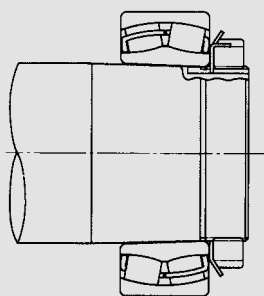
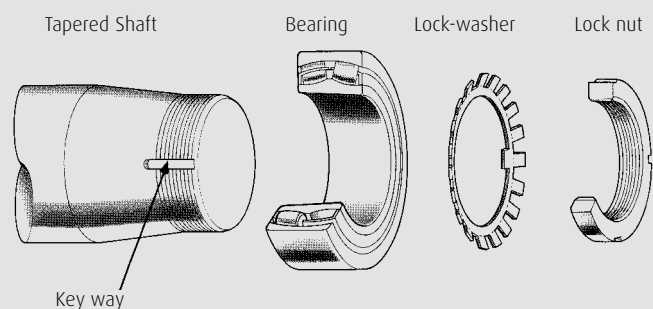

Fig. 6.21 Assembly view (without spacer ring)
Fig. 6.22 Method to use lock nut
a) Lock nut method (Fig. 6.21 and Fig. 6.22)
(a) In case of no spacer ring (**Fig. 6.21 and Fig. 6.22**)